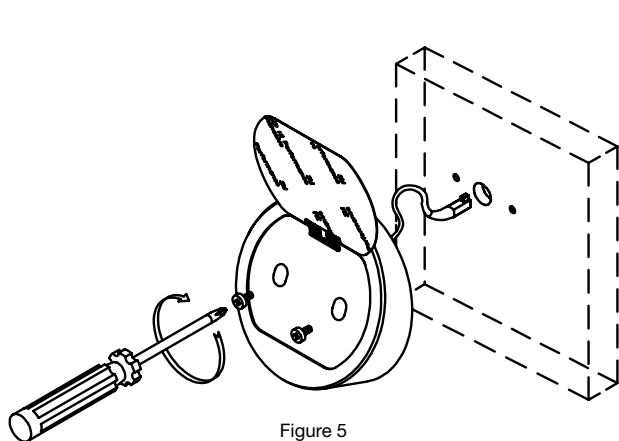

Figure 5
1. Feed the key pad cable through the spindle cable hole from the front of the safe door. (Figure 5).
3. Install the two #8-32 screws (US) or the M4-0.7 screws (metric) to mount the Entry Device to the door.